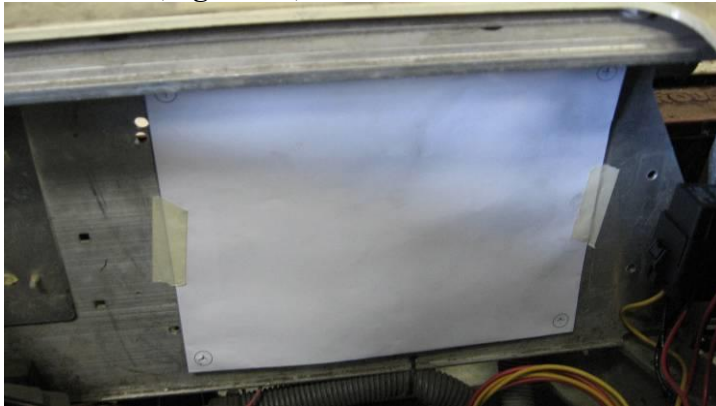

Figure 21
5. Use tape to fasten the drill pattern, found on the last page of these instructions, to the mounting panel. Make sure the battery + from the contactor and the other cables will be able to reach the controller after installation (**Figure 21**).